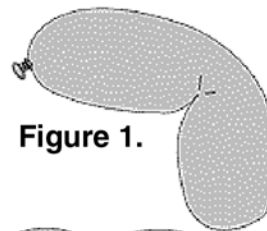

Figure 1.
1. Inflate a long balloon and tie it off. The balloon represents the pressure bladder of a spacesuit arm. Let students try to bend the balloon in the middle (see fig. 1).